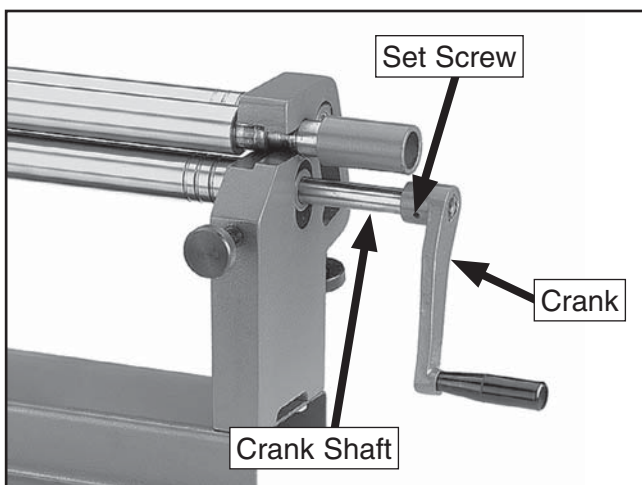

Figure 8. Crank mounting.
2. Slide the crank onto the crank shaft until the crank stops against the beveled shoulders of the shaft. Tighten the set screw to secure the crank in place (**Figure 8**).